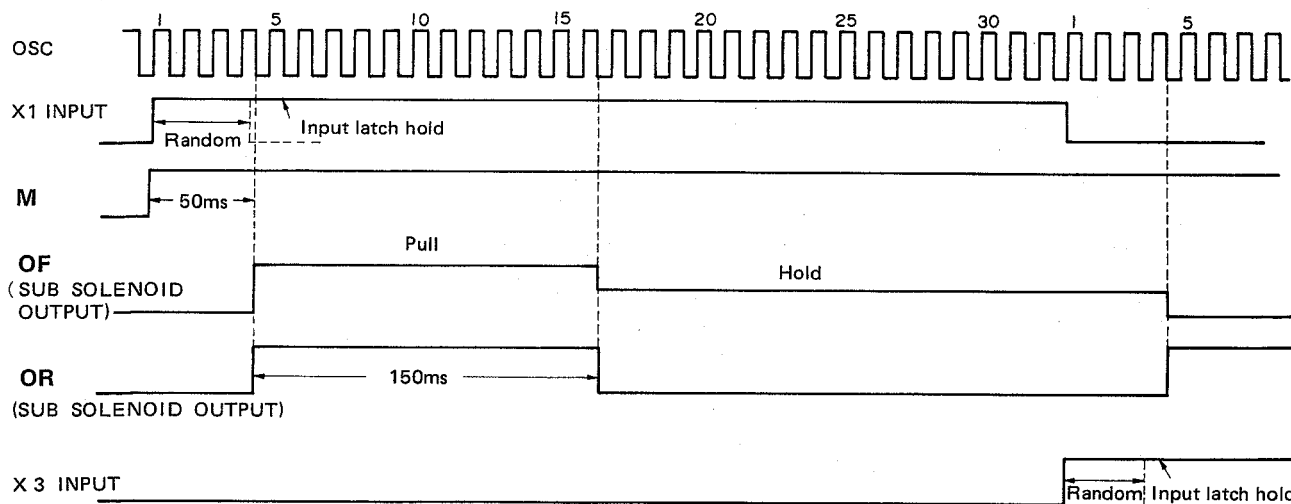

Fig. 4
- #### 4) Sub-solenoid double-pull circuit (Fig. 4)